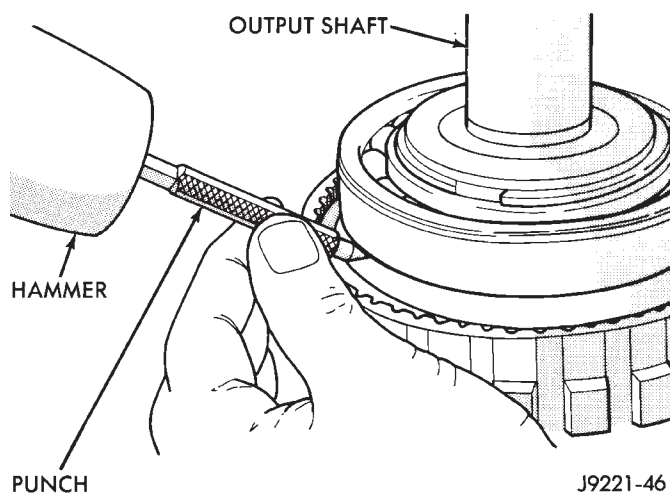

Fig. 325 Marking Annulus Gear And Output Shaft For Assembly Alignment
(18) Mark annulus gear and output shaft for assembly alignment reference (Fig. 325).